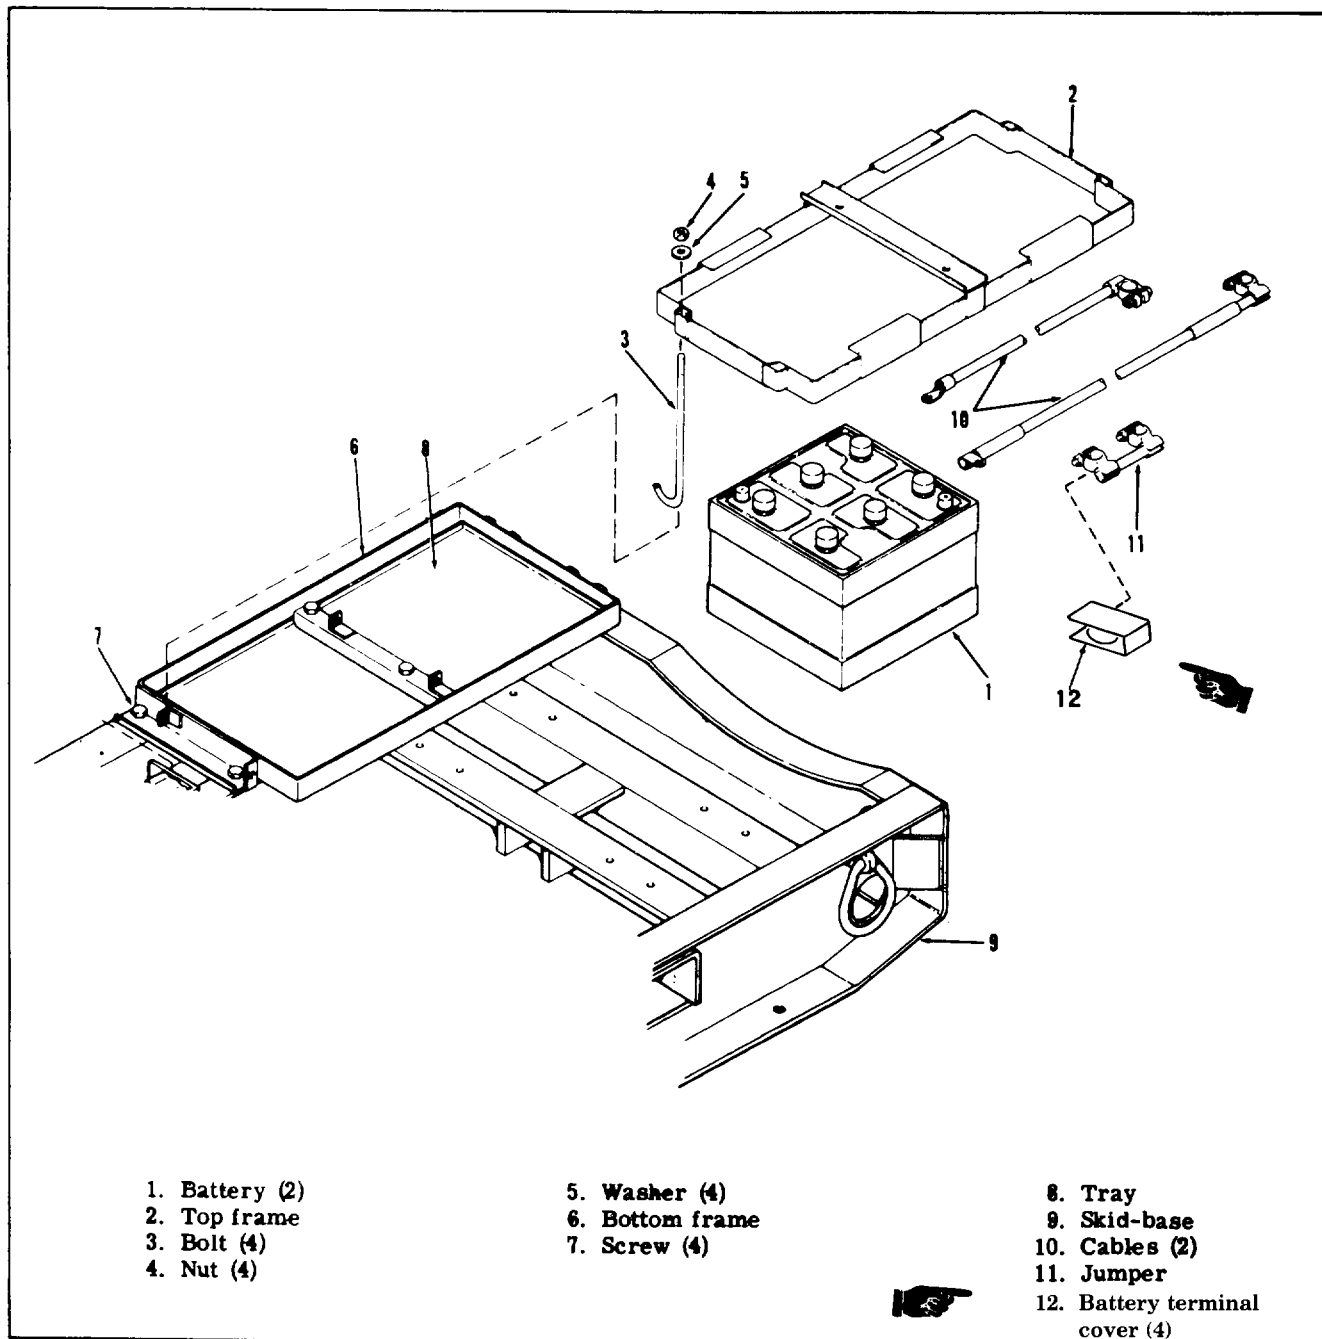
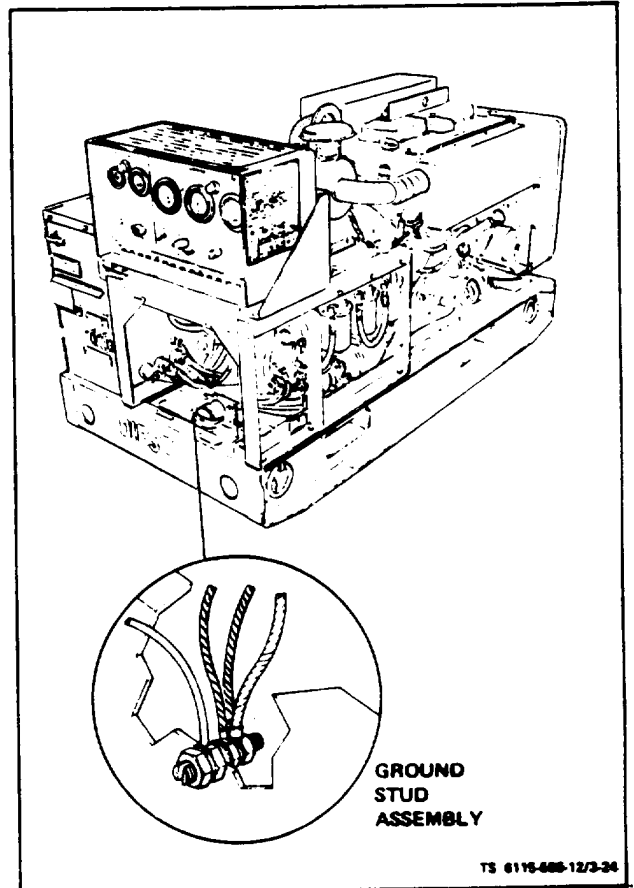

Figure 3-23. Battery and Frame
Figure 3-24. Ground Stud
a. Inspect (see figure 3-23).
(1) Battery Frame Bottom. On ASK equipped generators, remove BATTERIES access door. Inspect battery frame bottom (6) for dents, cracks, corrosion, or other physical damage. Check to see that battery frame bottom is free of corrosion.
(2) Battery Tray. Check to see that battery tray (8) is free of corrosion. Check that battery tray is securely attached to skid-base (9) with screw.
(3) Ground Stud (see figure 3-24). On ASK equipped generators, lift rear panel flap and inspect ground stud for deformed threads, corrosion, or other physical damage. Check that ground stud is securely attached to skid-base. Check that connection to stud are clean and tight.